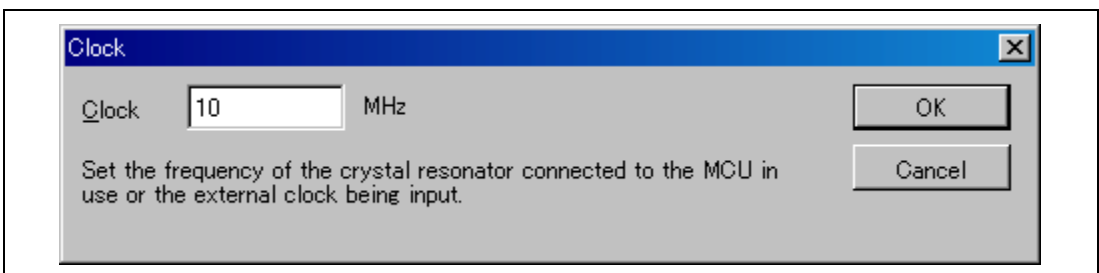

Figure 3.47 [Clock] Dialog Box
14. When using the MCU with flash memory, the [Clock] dialog box shown in figure 3.47 is opened.